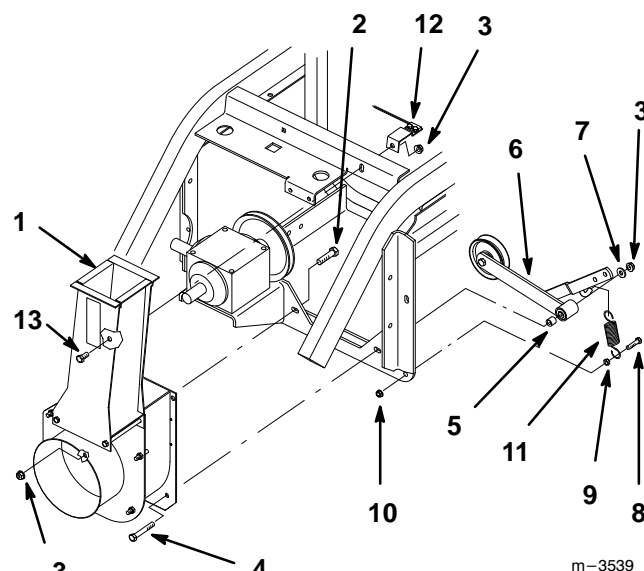

Figure 6
5. Slide blower\chute assembly up from bottom of the machine and place against traction unit frame (Fig. 6).
7. Install 3/8–16 x 1" (25 mm) carriage bolt in lower right hole of rear blower flange. Secure with a 3/8–16 flange locknut (Fig. 6).
8. Install 3/8–16 x 2-3/4" (70 mm) bolt through lower left hole of blower rear flange (Fig. 6).
9. Slide spacer, idler assembly and 3/8" (9.5 mm) washer onto bolt and secure with 3/8–16 flange locknut (Fig. 6).
10. Thread 5/16–18 nut onto 5/16–18 x 1-1/4" (32 mm) spring mount bolt and place into lower frame hole. Secure with 5/16–18 locknut (Fig. 6).
11. Hook spring over bolt and stretch to hook on arm of idler assembly (Fig. 6).
12. Hold switch bracket assembly to back side of frame cross member. Insert 3/8–16 x 3/4" (19 mm) bolt, from inside impeller chute, through chute, frame and switch bracket. Secure with 3/8–16 locknut (Fig. 6).